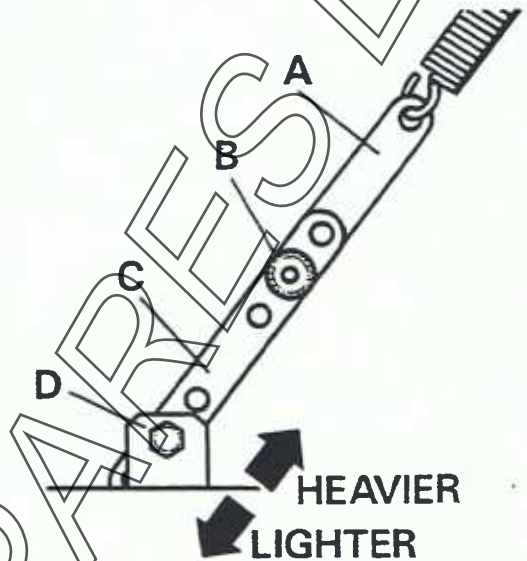

Fig.11.
1. Before checking the head weight, adjuster 'A' should be in the appropriate hole as shown in Fig.11 and knurled knob 'B' secured in place.
Raise head and close 'Feed Speed' control valve. Remove hex. screw 'D' and replace into the appropriate hole in link 'C' (see Fig.11). *